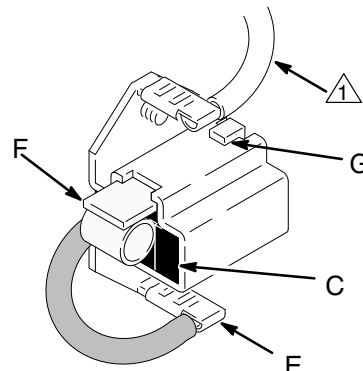

Fig. 16 03881
6. Place a new brush (C) in the holder (B) so the ramp (H) faces the spring (G). See Fig. 16.
7. Holding the spring clip (F) at a slight angle, slide the spring clip into the brush holder and hook it over the end of the holder. See Fig. 16. Pull on the spring clip to be sure it stays in place. Connect the brush lead to the blade connector (E).